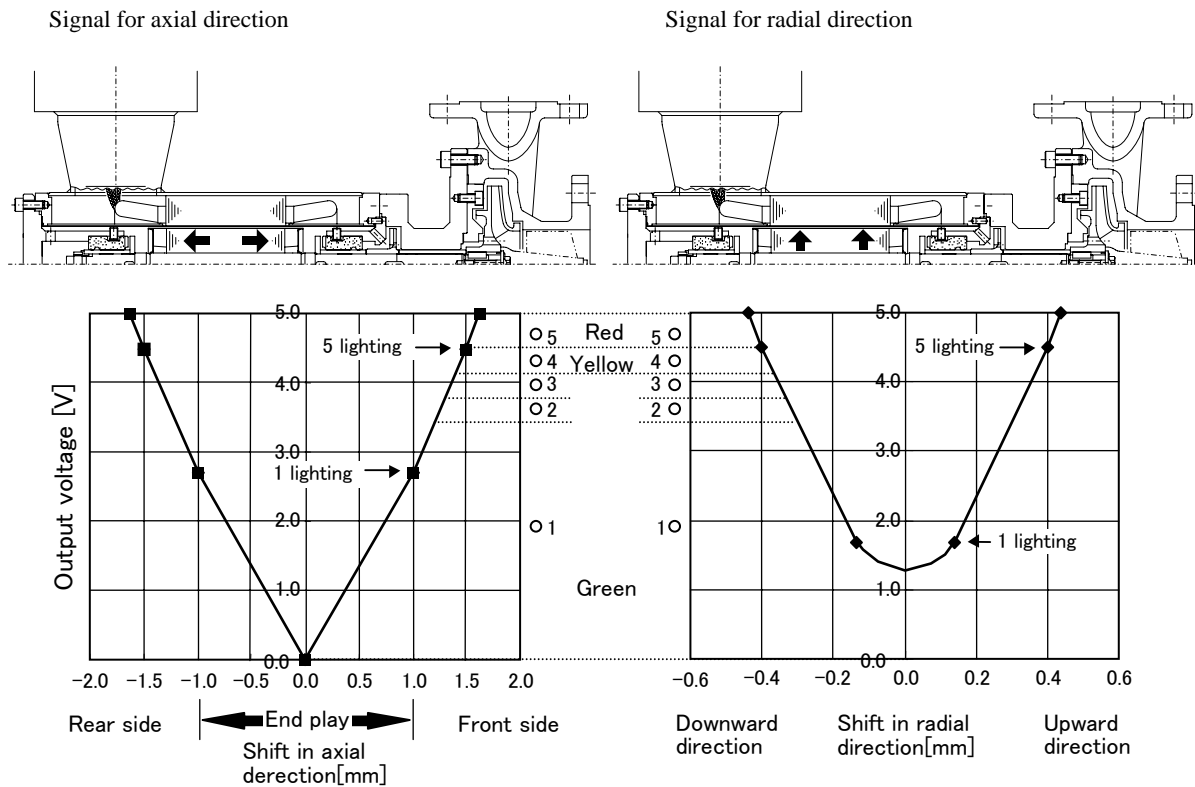

Fig. 4-19 Relationship Between the Output Voltage and Wear
The E-MONITOR is provided with an output terminal (DC0-5V/4-20 mA/RS422) on the option. See Fig. 4-19 for an illustration of the relationship between output voltage and degree of wear.
- 2) If the E-MONITOR display section lights in red in either of axial and radial, the bearing needs to be replaced. (If one red is lit, the output voltage is approximately 4.5V. Refer to Fig. 4-19.)